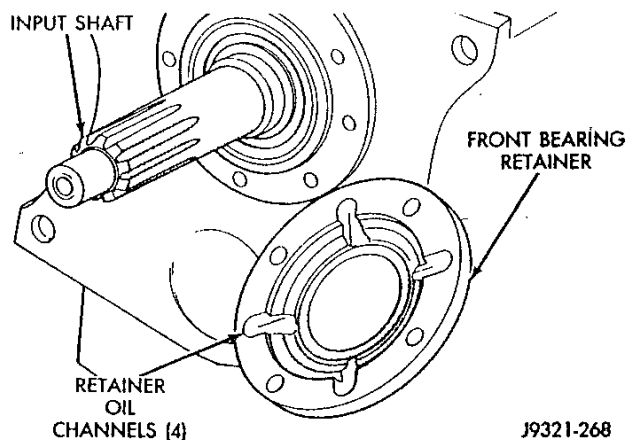

Fig. 3 Front Bearing Retainer Removal
(1) Remove front bearing retainer bolts and remove retainer (Fig. 3). Tap retainer with rubber mallet to loosen it if necessary.